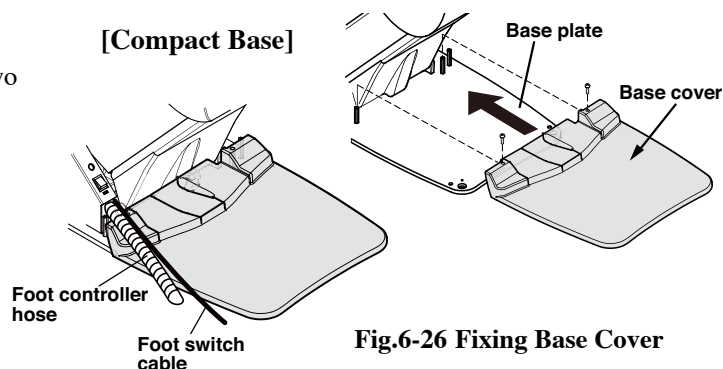

Fig.6-26 Fixing Base Cover
(4) Fixing the Base Cover (Compact Base)
- Fix the base cover to the base plate with two M5 x 10 pan head screws. **(Fig.6-26)**